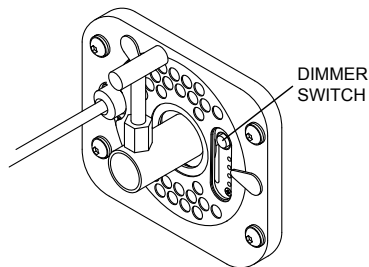
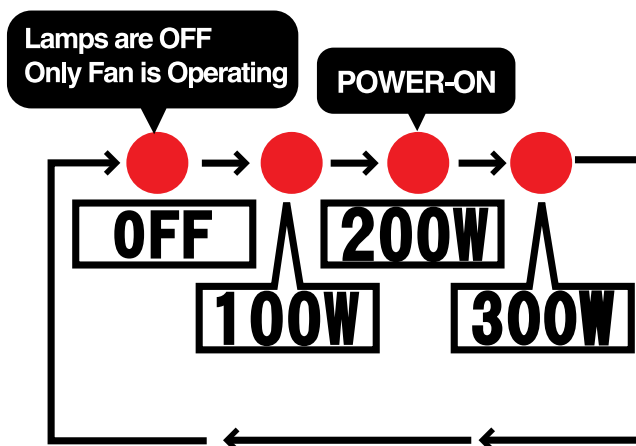

Figure 14. Dimmer Switch
Figure 15. Brightness LED Indicators
1. Press the dimmer switch to control the brightness of the lamp (Figure 14). The lamp can be turned off or set to 100W, 200W, 300W. The corresponding LED will light red when selected (Figure 15).
1. Press and hold the dimmer switch (Figure 14) for 2 seconds. The blue LED in the center of the switch will flash when in silent mode.